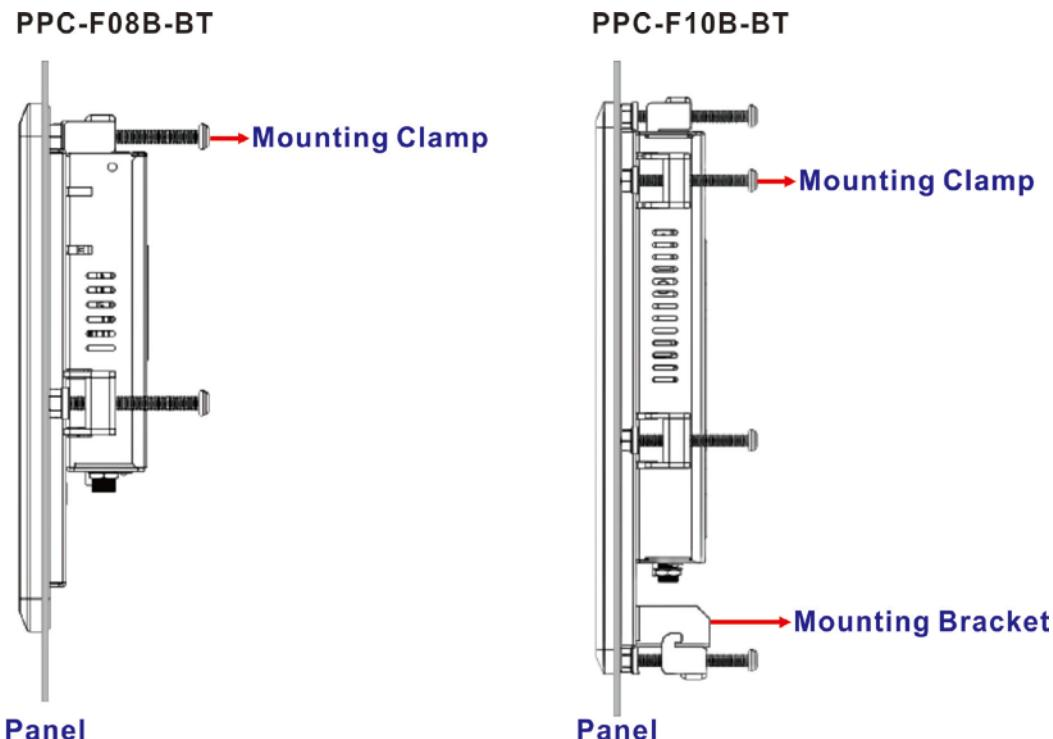

Figure 3-25: Tighten the Mounting Clamp Screws
Step 5: Insert the mounting clamps into the mounting brackets and pre-formed holes along the edges of the PPC-F08B/F10B-BT, behind the aluminum frame (**Figure 3-25**).
Step 6: Tighten the screws that pass through the mounting clamps until the plastic caps at the front of all the screws are firmly secured to the panel (**Figure 3-25**).